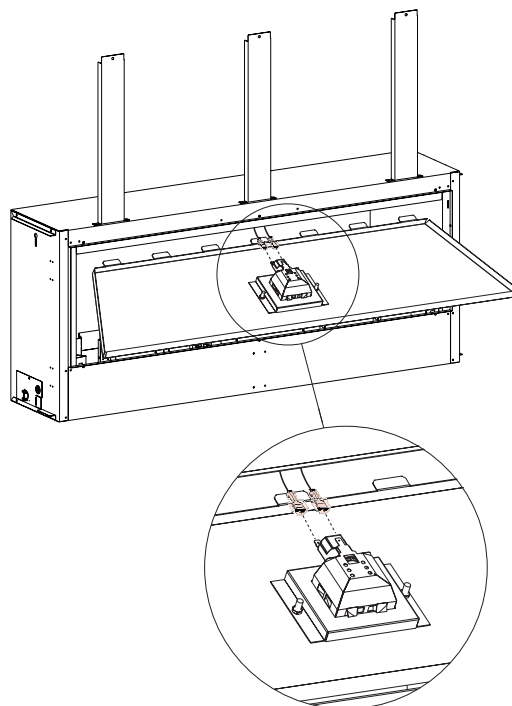

Figure 8
8. Connect the wire harness to the light. **See Figure 8.**